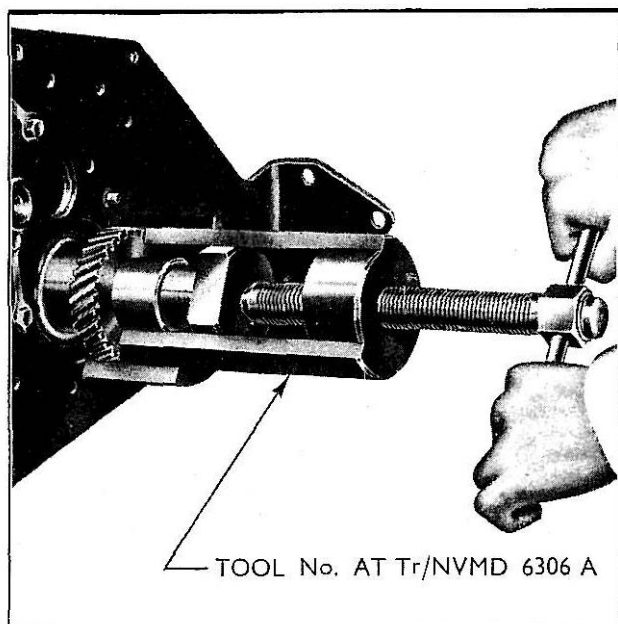

Fig. 35
- 6 Remove the crankshaft gear, using the puller (tool No. ATTr/NVMD 6306-A) with the thrust button inserted in the threaded end of the crankshaft (see Fig. 35).